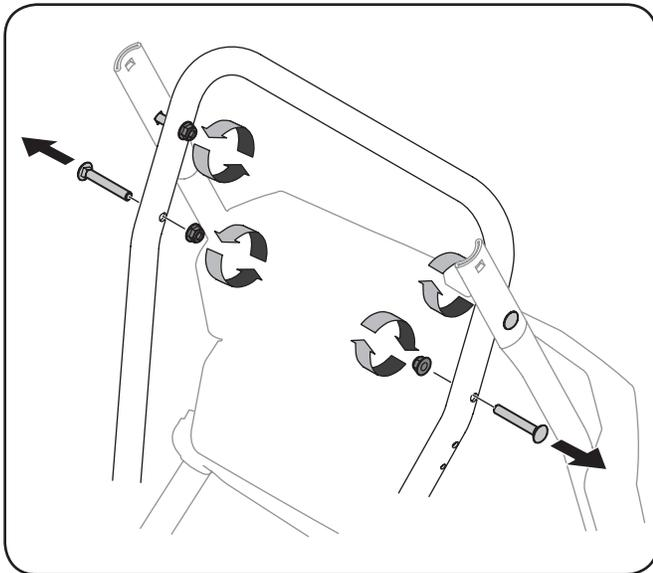

Figure 3-1
- Loosen the top two lock nuts securing the upper and lower handle and remove the two carriage screws from the lower handle and set aside as shown in Figure 3-1.